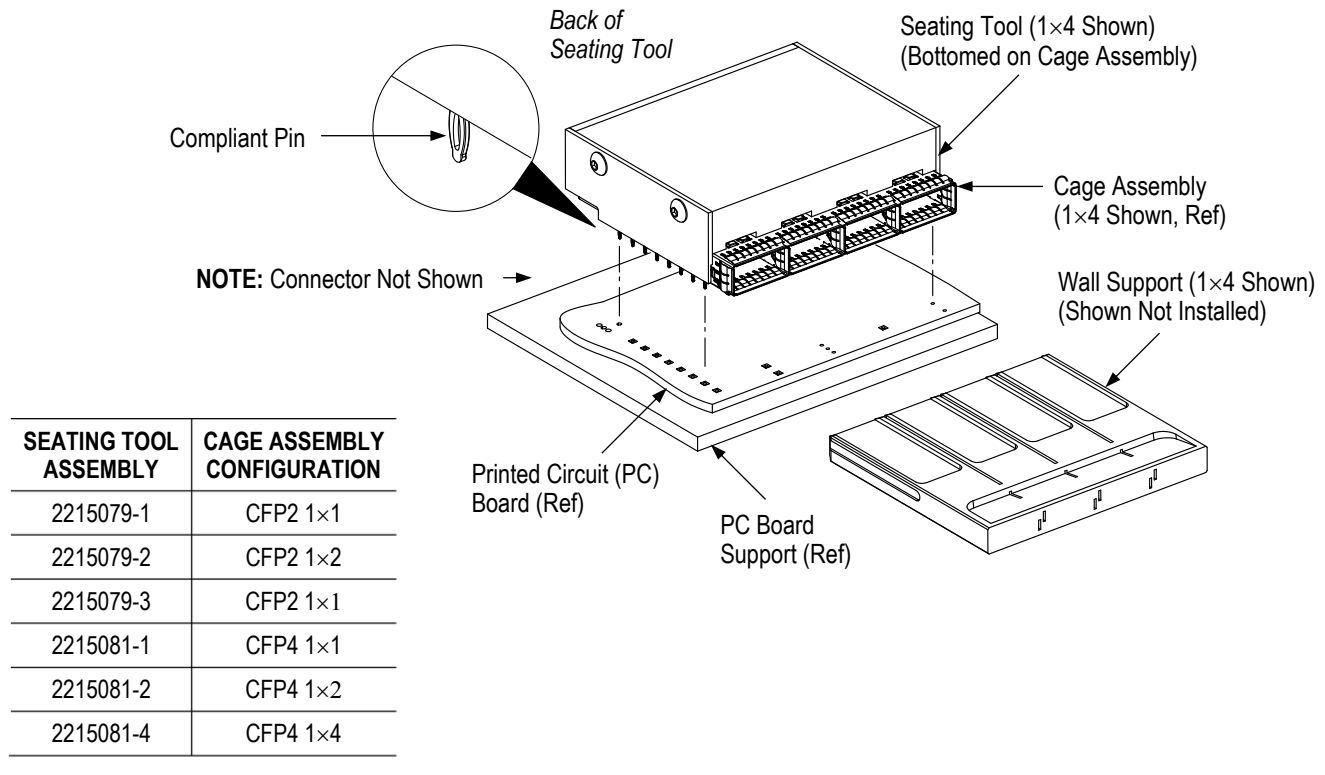

Figure 1
The cage assembly seating tool assemblies listed in Figure 1 are used to seat the cage assemblies listed in Figure 1 onto the pc board. The cage assembly contains compliant pins to allow solderless pc board installation. The seating tool assembly is not designed to seat the connector, nor a cage assembly having a heat sink.
4. Slide the wall support into the ports of the cage assembly until the wall support is secure (see Fig.1).